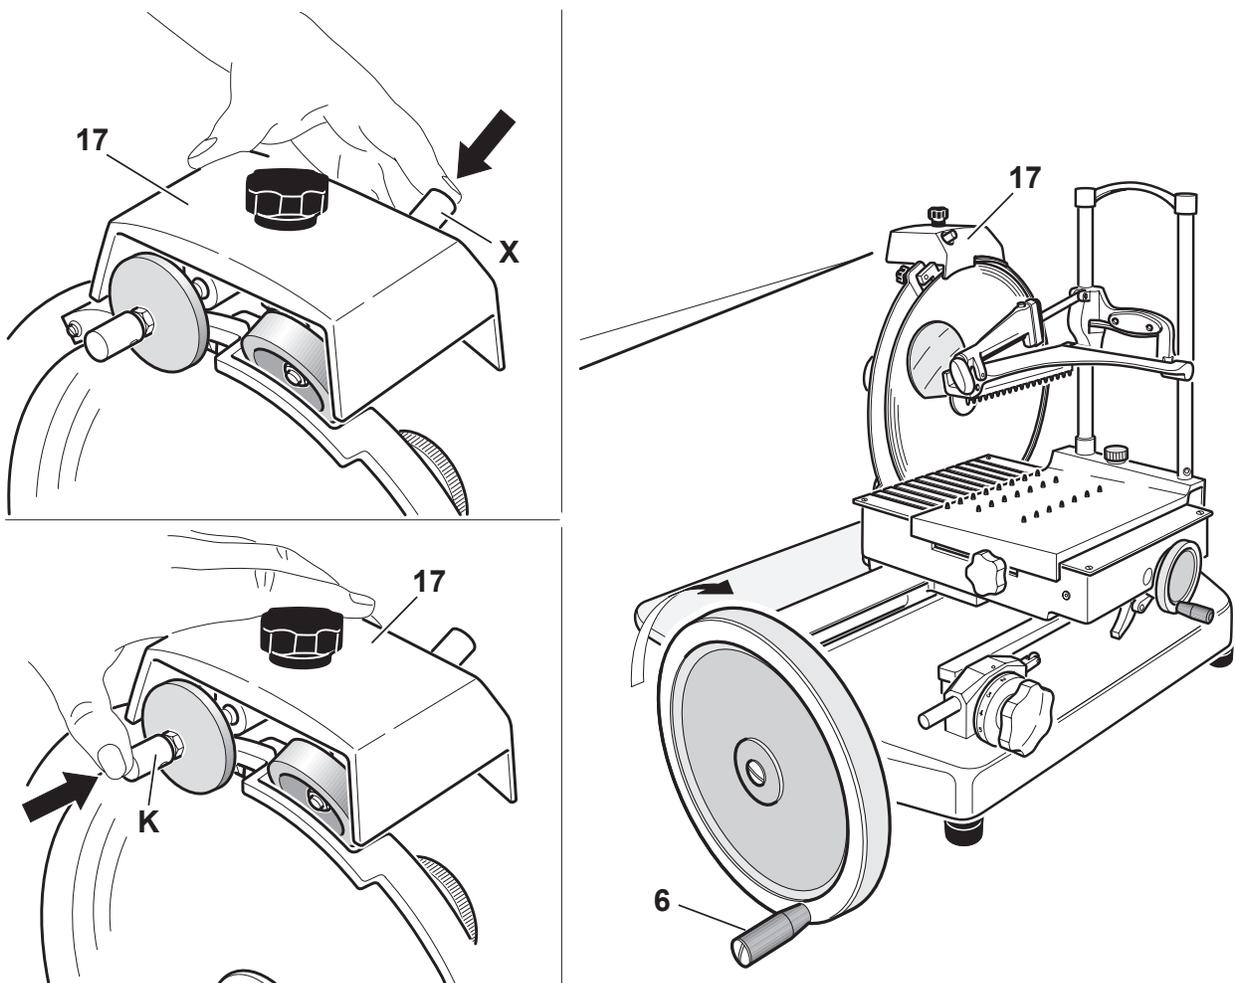

Figure 21-1
11. Turn the flywheel handle (6) clockwise and press the "X" button to perform about 20 to 30 knife revolutions (Figure 21-1).
12. Stop turning the flywheel handle (6) to stop the knife rotation. Use a pencil to check that a slight burr has formed on the knife edge.
13. Turn the flywheel handle (6) clockwise and press the "K" button.